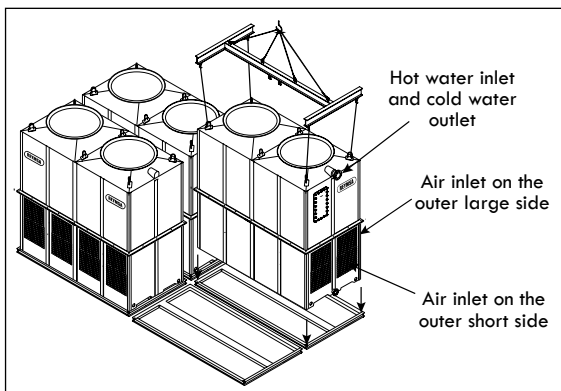
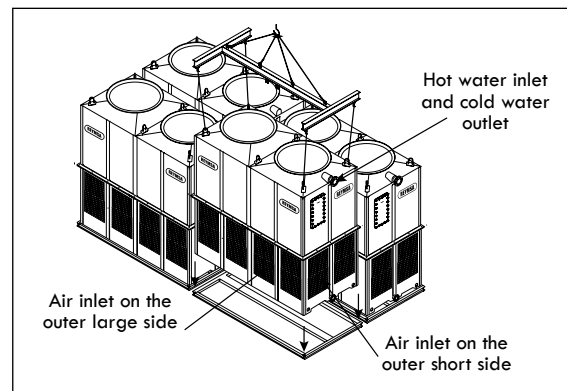

Figure A-77: X-Orientation - Third T2 module lifting and installation (RTM or RTPM Models)
Figure A-78: X-Orientation - Fourth T2 module lifting and installation (RTM or RTPM Models)
- D. Repeat the previous two steps to install the remaining modules. Pay attention to the correct module arrangement; Each module is labeled alphabetically (module 1: A; module 2: B, etc.) for a proper installation (see Figure A-77 and Figure A-78).